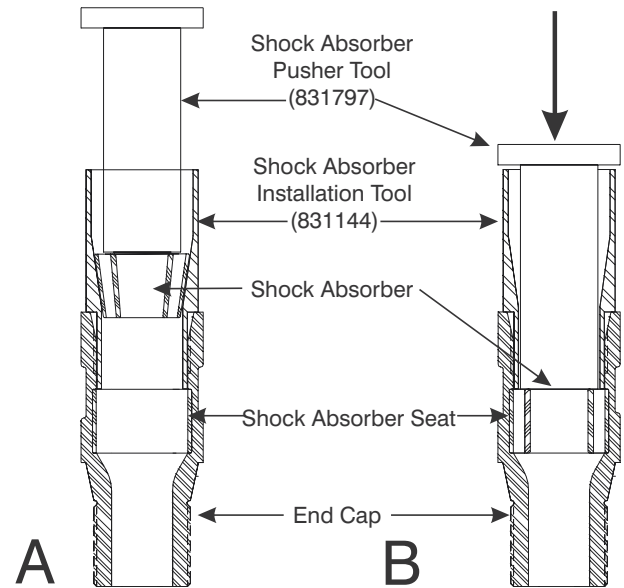

Figure 9-7. Press the Shock Absorber into the End Cap Shock Absorber Seat.
5. Slowly compress the Shock Absorber in Installation Tool 831144 as shown in Figure 9-7-A.
6. Continue pressing the Shock Absorber into the End Cap until it seats between the internal shoulders of the End Cap as shown in Figure 9-7-B.